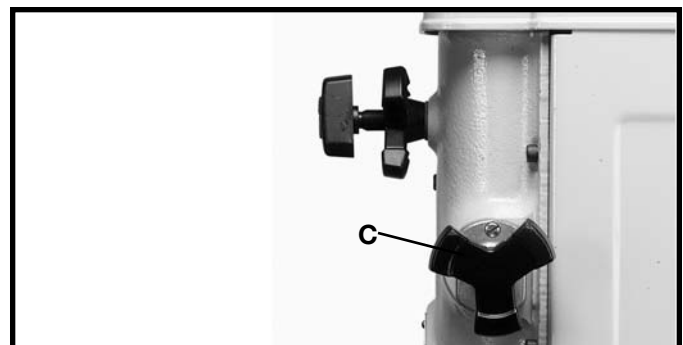

Fig. 13
2. Turn the belt tension handle (C) Fig. 13, clockwise to increase belt tension. Correct tension is determined by two things: